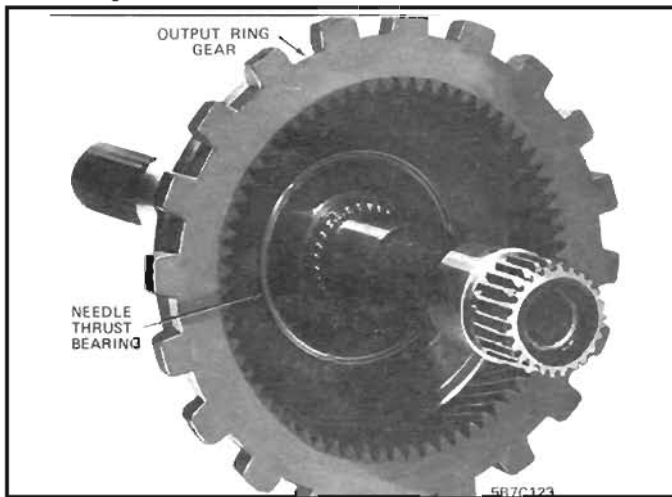

Figure 81 Needle Bearing Assembly
1. Install output ring gear to output shaft and output ring gear to output shaft snap ring. *See Figure 81.*
2. Install reaction carrier to output ring gear needle thrust bearing with lip side face up. See Figure 81.